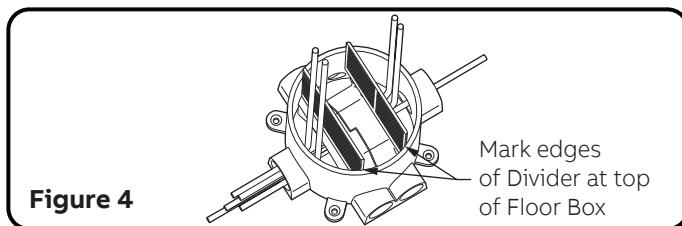

Figure 4
- Assemble divider halves, see Figure 3A. Do not glue! Lower divider assembly into 68P floor box so that data cables exit the floor box on outer sides of the divider assembly. Verify the divider ramp covers any data cable that runs through the box. Make sure divider assembly is resting on the bottom of the 68P floor box, see Figure 4. **NOTE:** When using the 68P-EXT floor box extension, the 68P-DVD-EXT Voltage Divider Extension (not included) is required. Snap (do not glue) the divider extensions onto top of the Divider Assembly provided, see Figure 3B.
4. Make a mark on the divider sides where they meet the top of the cut floor box, see Figure 4.